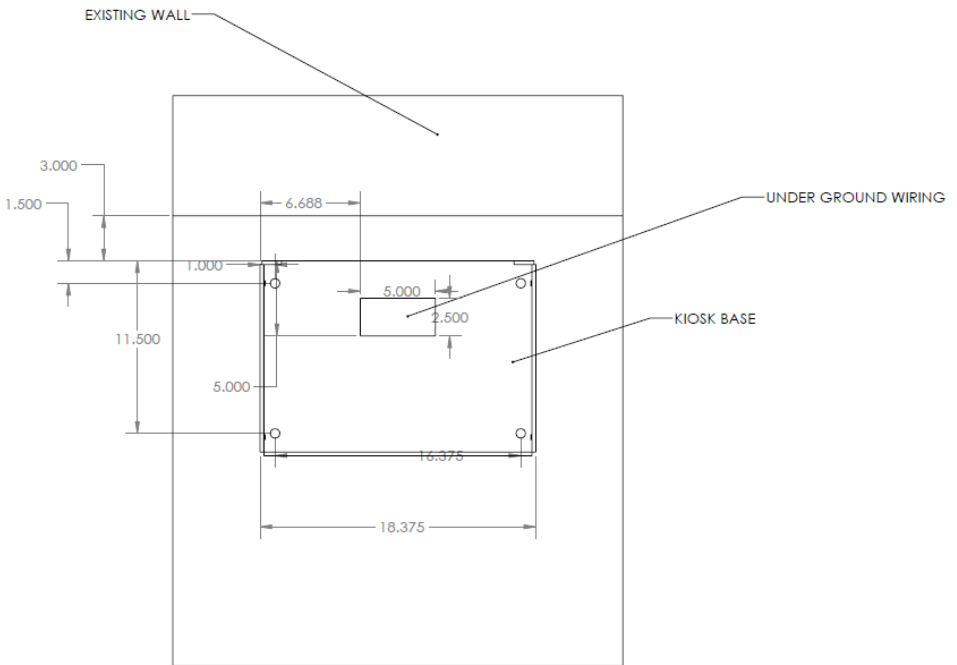
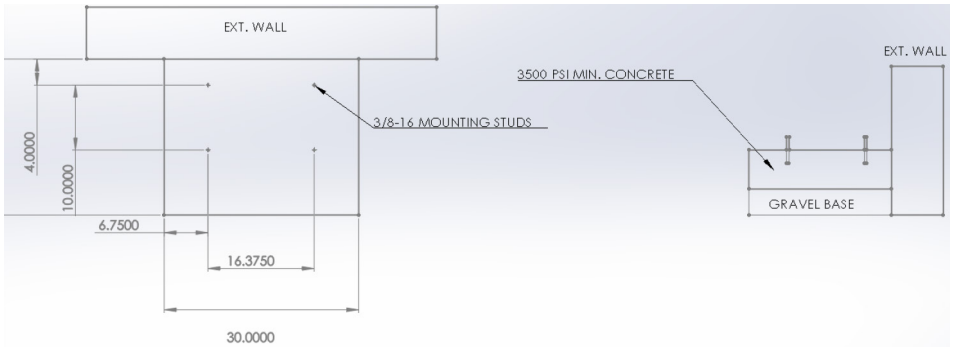

Figure 1: Model 720 Pedestal Base Layout
Figure 2: Model 720 Concrete Pad Specifications
The INSOMNIAC 720 must be mounted on a concrete pad. Four (4) bolts will need to be anchored into the pad with which the pedestal base is to be attached. Holes in the pedestal base allow for 3/8" bolts to be used (please follow the bolt manufacturer's recommendations when anchoring bolts in concrete). Please see Figure 1: Model 720 Pedestal Base Layout (page 11) for pedestal base layout, and Figure 2: Model 720 Concrete Pad Specifications (page 12) for concrete pad specifications.